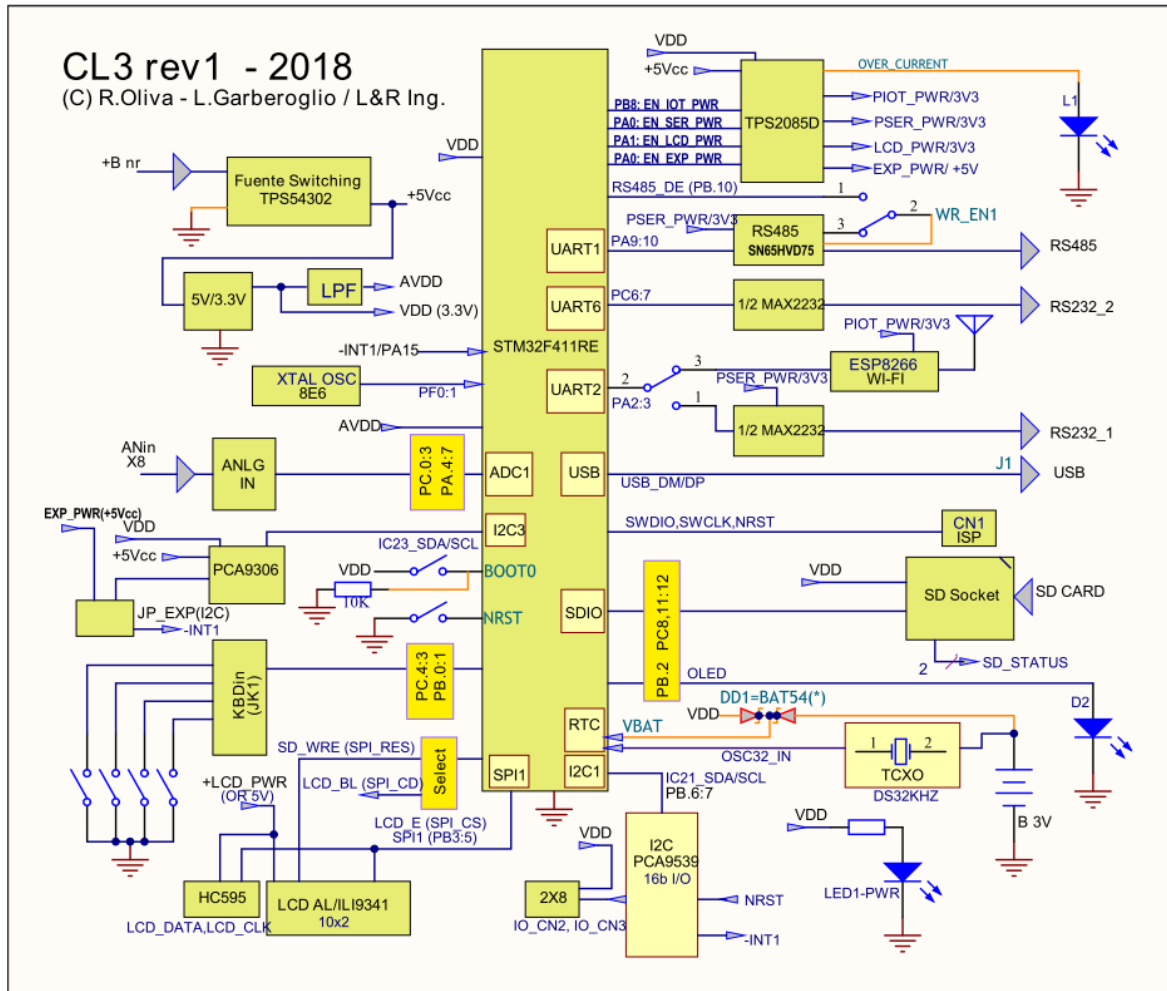

Figure 2 – Block diagram of the CL3 board
2.a Block Diagram: L&R Ing. CL3 boards were designed from 2017 to 2018, and integrated into applications mainly for data logging and other control functions, usually teamed with peripheral boards such as the METEO board/module [ref06]. The block diagram of the board can be seen in Figure 2.